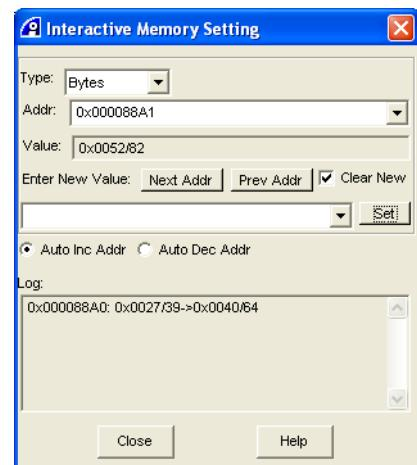

Figure 14-20 Memory set in Interactive Memory Setting dialog box
8. Click **Set** to change the value of the specified memory location. If required, use the drop-down arrow to select a previously used value from the stored list. The Log is updated to show your change, shown in Figure 14-20 on page 14-16.